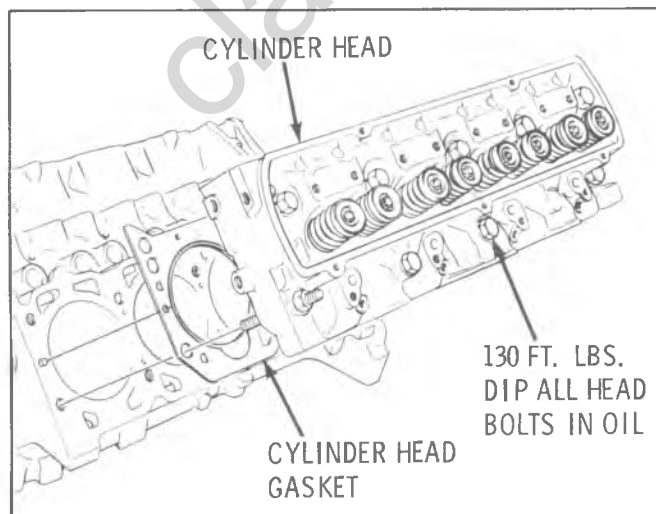

Fig. 6A6-46--Cylinder Head & Gasket
4. Remove valves. Keep valves separated so they can be installed in their original locations. (Fig. 6A6-49).